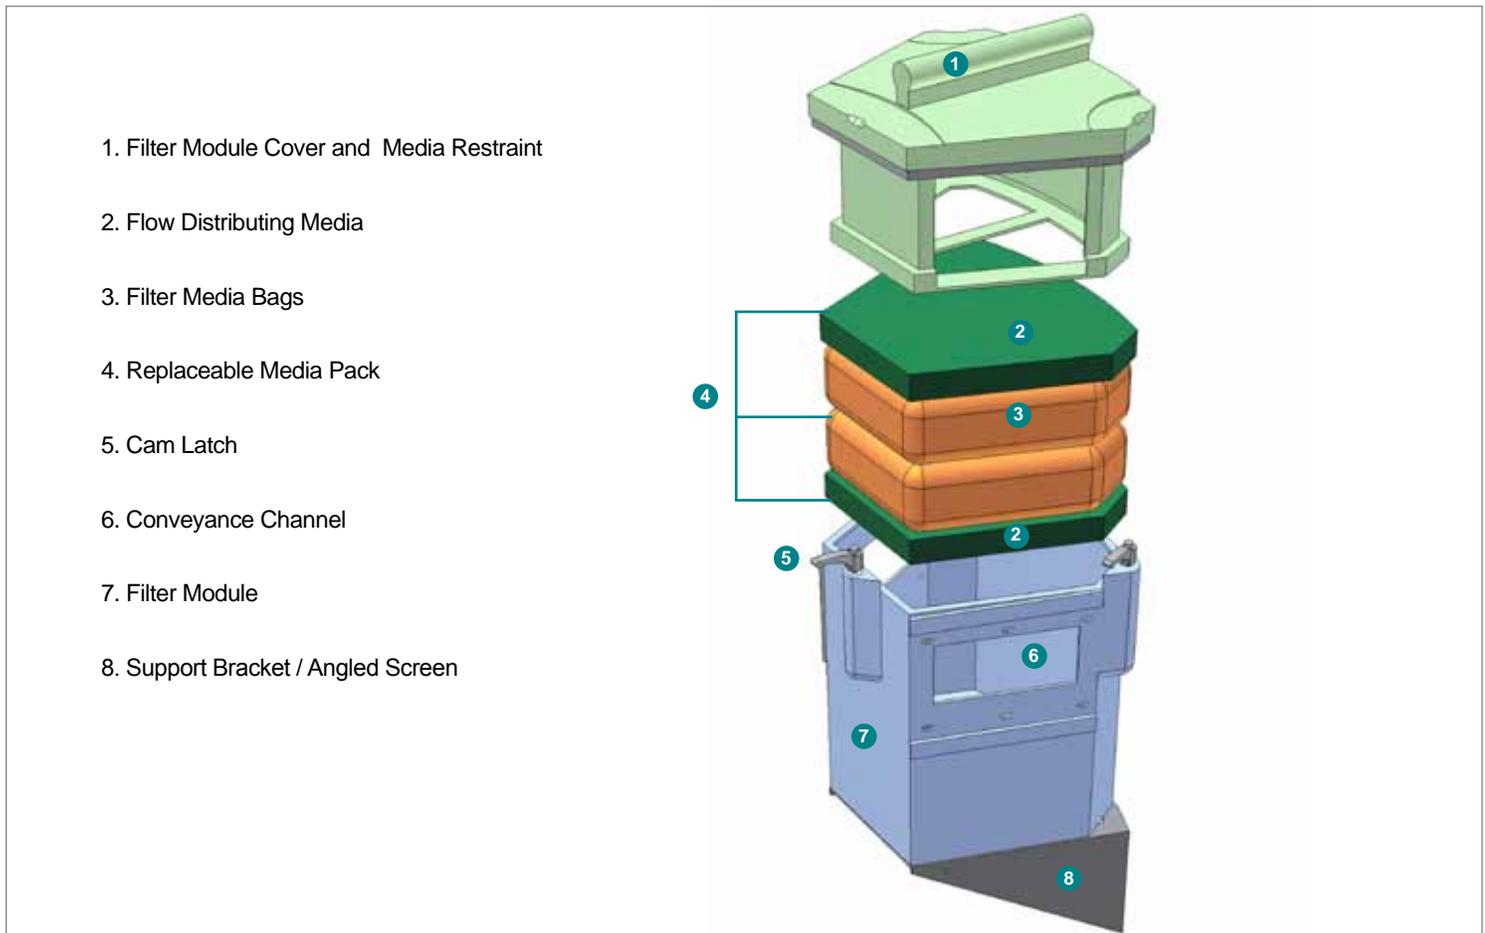

Fig.9 The Filter Module houses the Media Restraint and the Media Pack.
After completion of the first year of operation, determining and then following the established inspection and maintenance intervals will keep pollutant loadings within their respective limits. Removal of oils and floatables, replacement of the Drain Down Filter, replacement of Flow Distribution Media (see Fig.9, pg 11), and cleaning of Angled Screens will occur at the same frequency as cleaning of the sump and replacement of Media Bags unless the first year of operation indicates otherwise. Keeping to the established maintenance intervals will keep treatment flow rates at, or above, the design flow rate. Typically, annual maintenance is adequate.
3. Open the Filter Module by turning the three cam latches on the front and sides of the module. Remove the lid ① to gain access to the Media Pack (Fig.9).
- A top layer of green ② Flow Distributing Media.
- Two (2) Media Bags ③ equipped with nylon handles.
- A bottom layer of green ② Flow Distributing Media.
- Next, insert the first of two (2) replacement Media Bags. Smooth the bag out with your hands to make sure that the bag extends snugly to the walls and corners of the Filter Module.